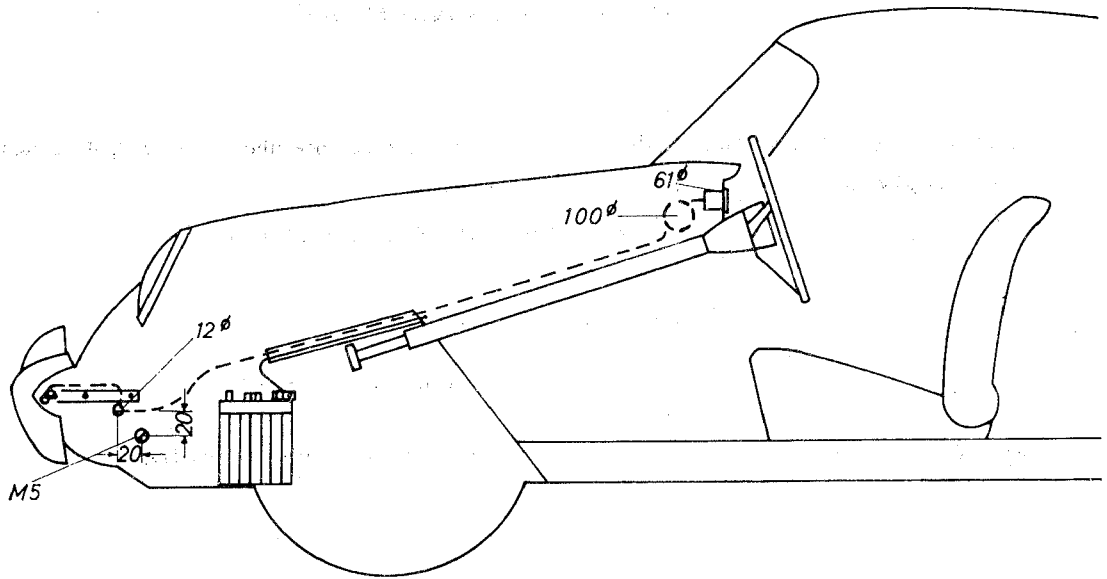

Fig. 2
5. Drill a 12 mm diam. hole into the right panel of the front compartment in front of the battery just above the earthing screw M 5 (see Fig. 2).